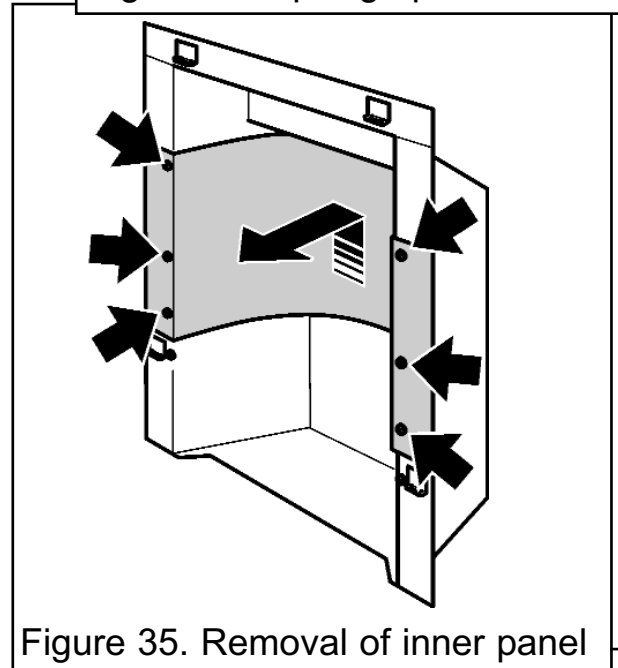

Figure 35. Removal of inner panel
3. Remove the six screws from the side of the inner panel (See figure 35).